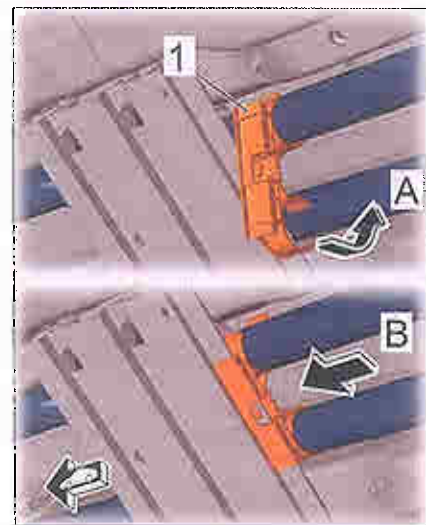

Figure 15
- 5.1 Press in holder for coolant pipes ⇒ *Figure 15 -1-* on the right coolant pipe ⇒ *Figure 15 -arrow A-*.
- 5.2 Clip holder into the aluminium strut on the reinforcement plate ⇒ *Figure 15 -arrow B-*.